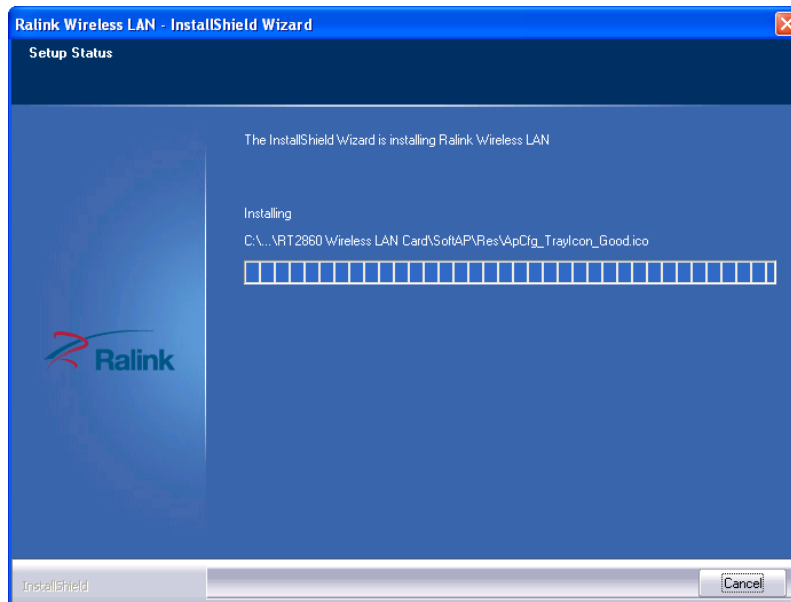

Figure 5-38: Setup Status
Step 12: The **Setup Status** screen in **Figure 5-38** appears and displays the progress of the installation.